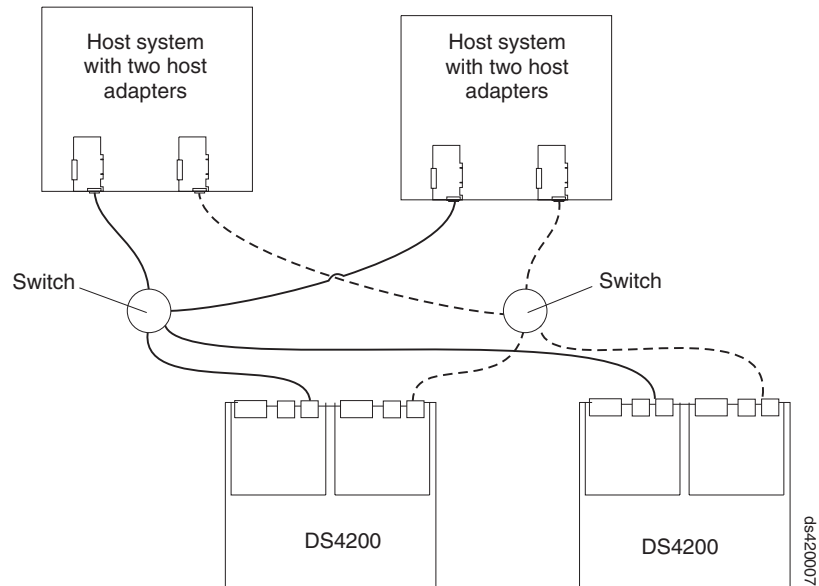

Figure 60. Example of two storage subsystems in a dual SAN environment
- Two storage subsystems in a dual SAN fabric configuration, as shown in Figure 60 on page 77
In Figure 60 on page 77, the fibre channel switches are not connected together. Each switch forms its own SAN fabric.